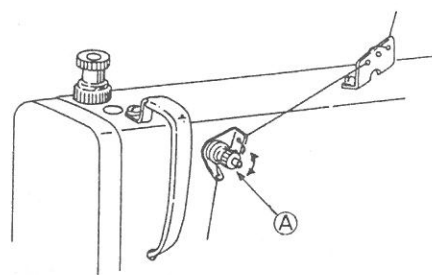

Fig. 16
- (1) Adjust the remaining length of needle thread by use of the pretension adjust nut (A). (Fig. 16)